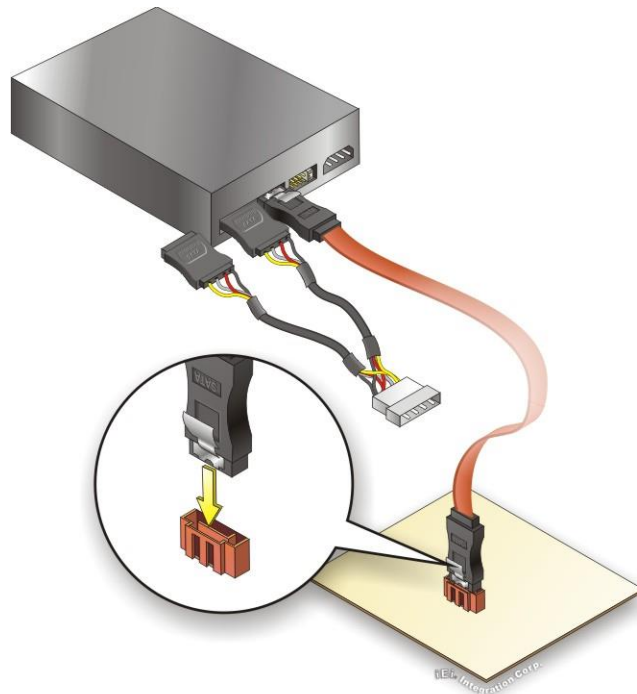

Figure 4-7: SATA Power Drive Connection
Step 3: Connect the cable to the SATA disk. Connect the connector on the other end of the cable to the connector at the back of the SATA drive. See **Figure 4-7**.
Step 4: Connect the SATA power cable. Connect the SATA power connector to the back of the SATA drive. See **Figure 4-7**.